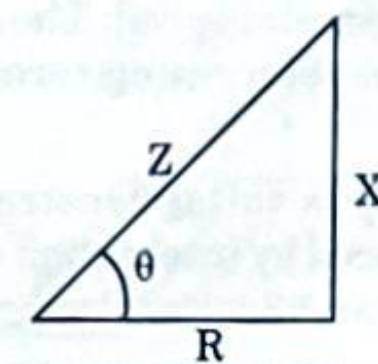

Fig. 2.19.2.
10. Consider an impedance triangle shown in the Fig. 2.19.2.